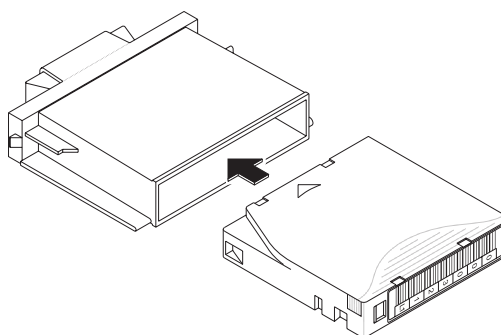

Figure 4-6 Inserting a cartridge in the entry/exit port caddy
7. Remove the cartridge and insert a new cartridge in the caddy, with the write-protect switch facing out, as shown in Figure 4-6.